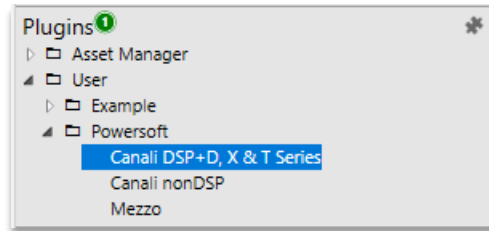

Figure 1 – Screenshot of Plugins section in QSYS Designer.
3. The plug-in will appear in the “Plugins” tab (Figure 1) under Powersoft. Click on it and drag it into your design.